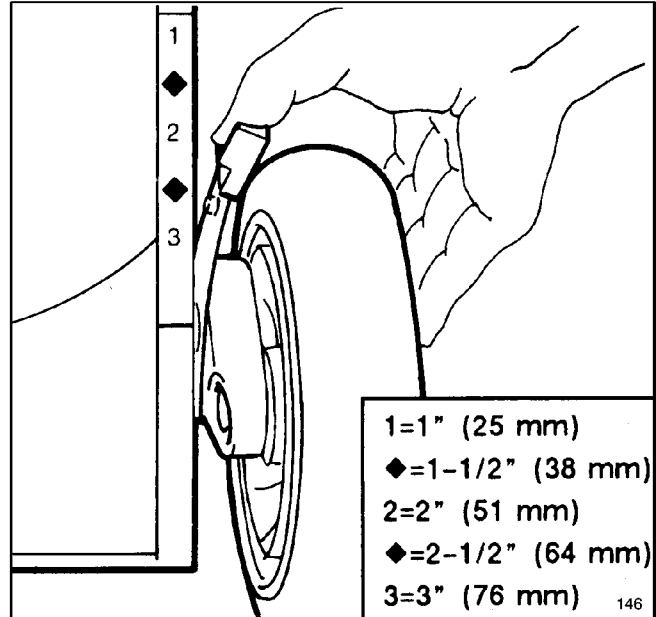

Figure 16
2. For easier adjustment, lift housing up so wheel is off ground. **Do not place hands under deck to lift housing.** Squeeze adjusting lever toward wheel and move to desired setting (Fig. 16). Ensure pin on adjusting lever engages notch in housing. Adjust all wheels to the same setting.